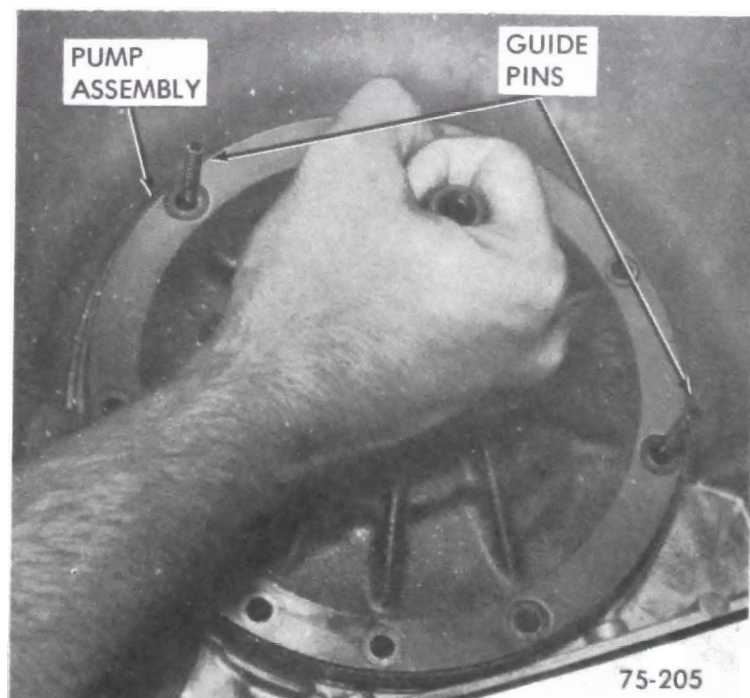

Figure 75-250
2. Install guide pins into case. See Figure 75-250. Before installing, pump lubricate case bore.